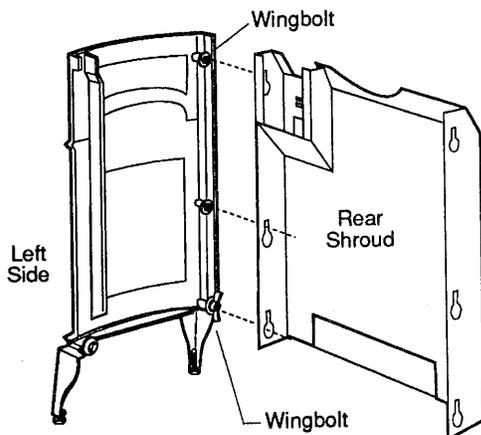

Figure 15. Secure Left End to the Rear Shroud.
Step 1. Attach the Rear Shroud to the Left End plate by aligning the key holes with the two wingbolts in the side. If necessary, turn the wingbolts to orient the blades vertically. Fig. 15. Slide the shroud downward to engage it behind all three washers on the side plate bolts and then tighten both wingbolts.